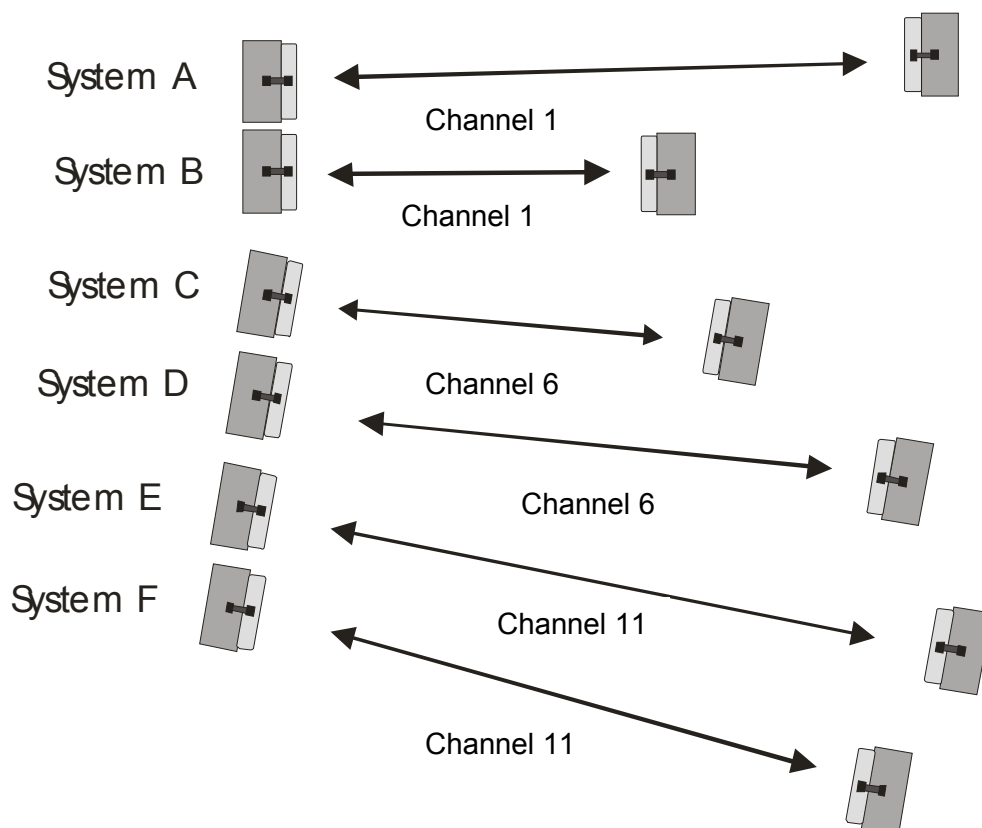

Figure 4 Example of co-located systems with each 2 systems sharing one channel
- Install the systems that share the same channels as close together as possible (as illustrated in Figure 4 below). Each two systems will now share the radio bandwidth available per channel.